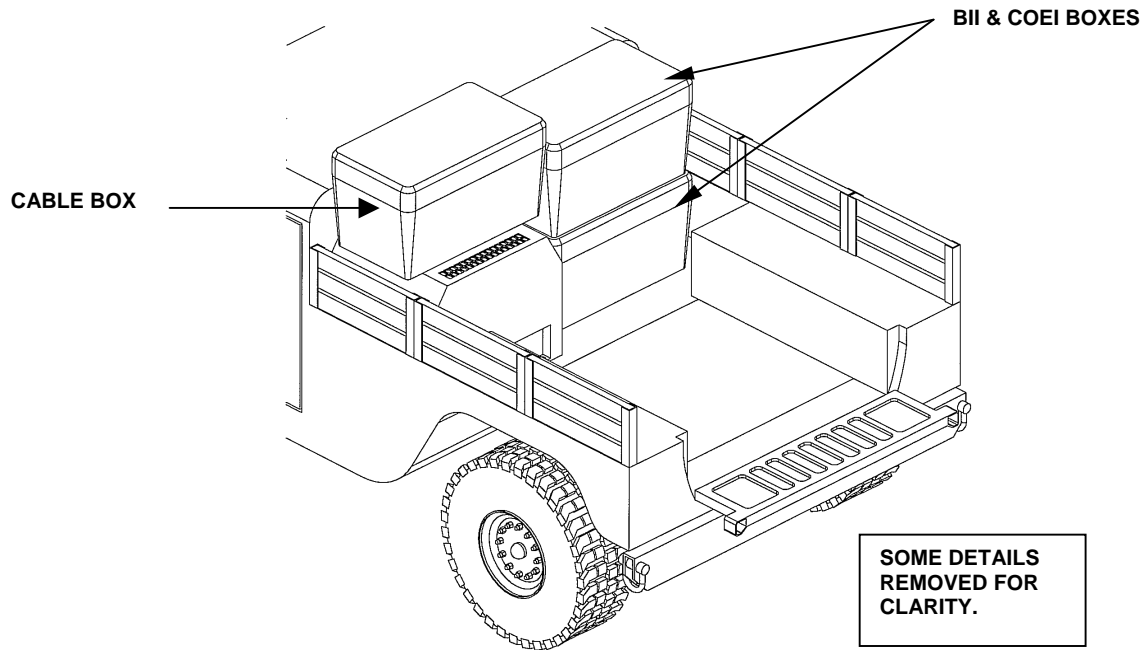

Figure 7. Loading COEI and BII Boxes.
11. Load the BII box and Components of End Item (COEI) box on the right side (passenger's side) of the HMMWV cargo compartment. Stack one box on top of the other. See Figure 7.
12. Load the cable box on top of the 3 KW TQG. See Figure 7.
14. Place the settling tank on the top of the cable box. Place the product tank on top of the BII (or) COEI box. See Figure 7.